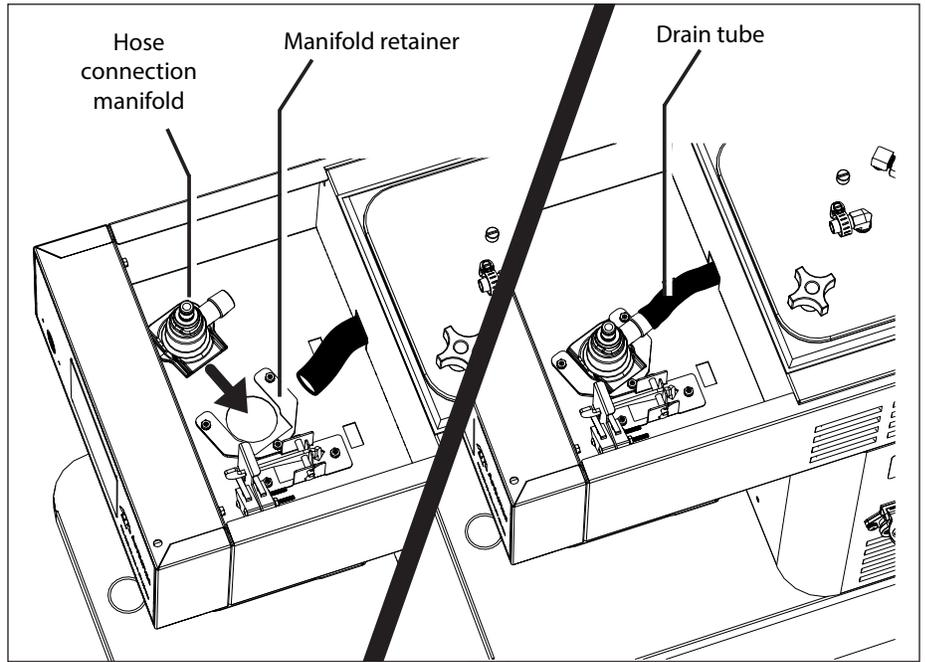

Figure 1. Installing the hose connection manifold
5. Install the hose connection manifold by sliding its flanges under the manifold retainer (see Figure 1).
6. Connect the drain tube to the hose connection manifold (see Figure 1.)